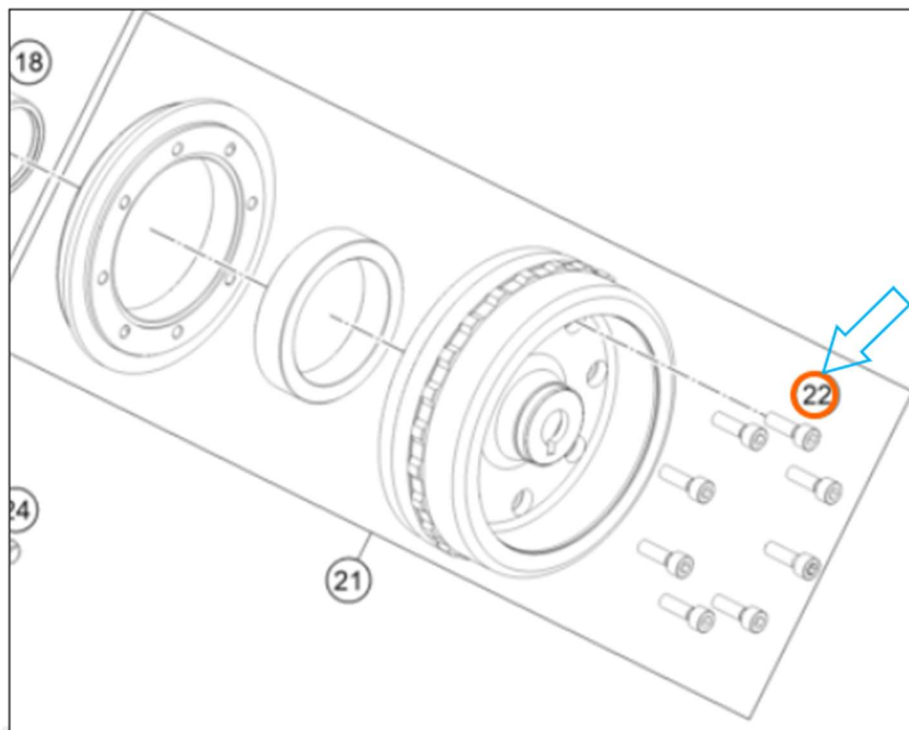

Fig.: 2 #0912060206 AH SCREW DIN 912 M6X20
- Loosen 8 pcs. #0912060206 AH SCREW DIN 912 M6X20 (see Fig. 2) one after the other, remove them from the rotor, and clean them.